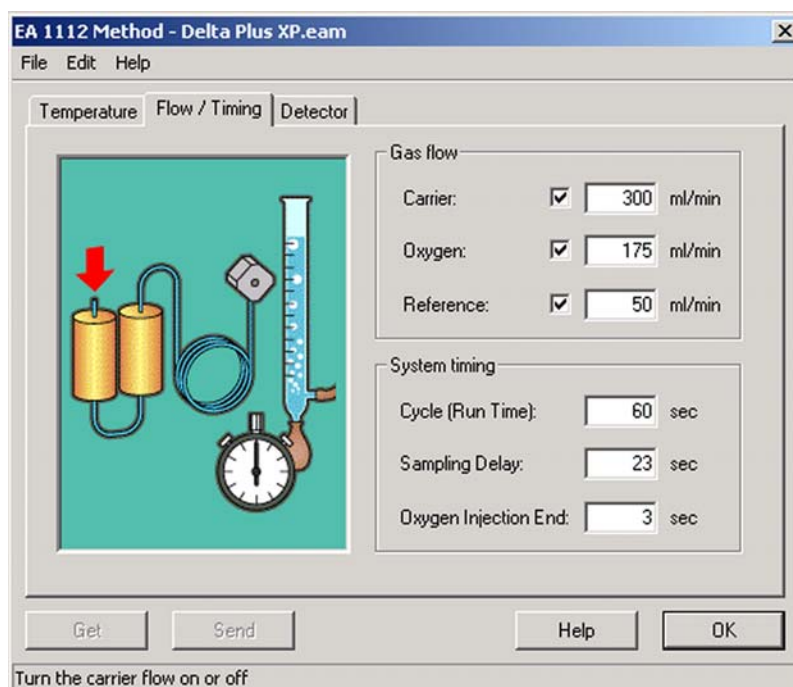

Figure 3-27. EA 1112 Method - Flow/Timing tab
2. Click on the **Send** button. Select the **Flow/Timing** tab. See Figure 3-27. Set the parameters as shown there.
3. Select the **Flow/Timing** tab. See Figure 3-27.